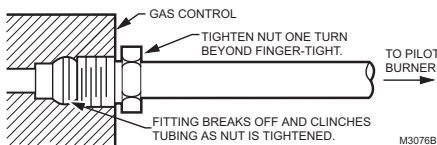

Fig. 7. Always use new compression fitting.
4. Push tubing into the pilot gas tapping on the outlet end of the control until it bottoms. While holding tubing all the way in, slide compression fitting into place and engage threads. Turn until finger tight. Then tighten one more turn with a wrench. Do not overtighten. (See Fig. 7).